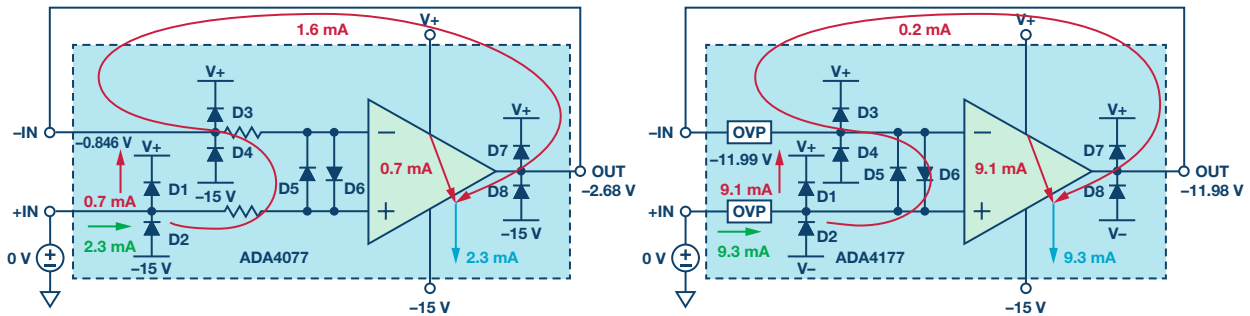

Figure 4. ADA4077/ADA4177 current path when V_+ is absent (input grounded).
- ▶ Current flow path loop: as the red path shown in Figure 4, 0.7 mA current flows from GND (+IN) to V_+ . 1.6 mA current flows from GND (+IN) through an internal resistor, D5 and the feedback path between $-IN$ and OUT, then the current flow into output terminal. Finally the two currents (0.7 mA and 1.6 mA) combine to flow to -15 V, and the combined current flows back to GND (+IN).
Results are similar between the ADA4177-2 and ADA4077-2. Note that within the ADA4177-2, D1 is implemented by an emitter base of a lateral PNP transistor. The transistor routes the overvoltage current away from the V_+ to the V_- . The ADA4177 circuit in Figure 4 shows 9.1 mA current flow